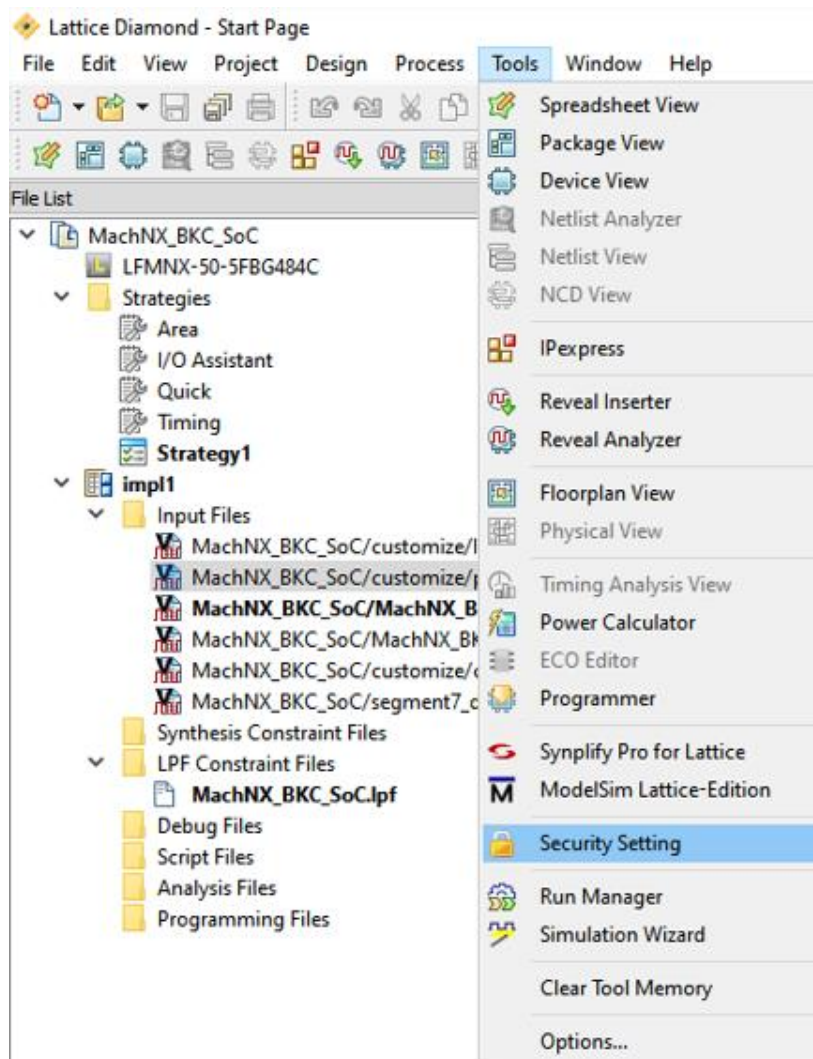

Figure 3.1. Select Security Setting
2. Click on the **Tools** menu, then choose **Security Setting** as show in Figure 3.1.